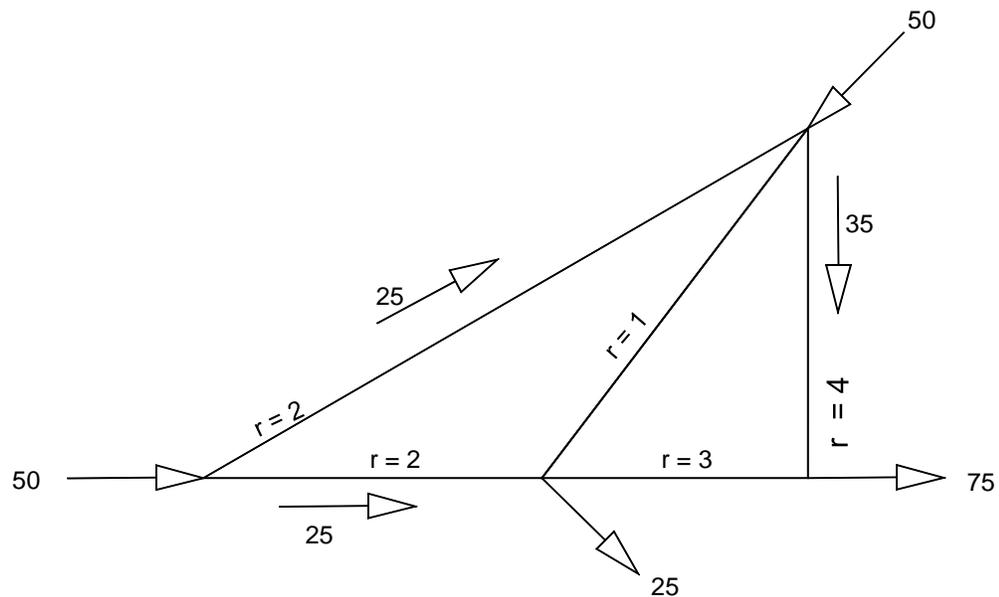

Fig.5
6. The distribution of the flow through the network shown in Fig.5 is desired for the inflows and outflows. The initial assumption of some flow rates in some pipes is given and take  $n = 2.0$ . Calculate the flow rate through each pipe of the network.